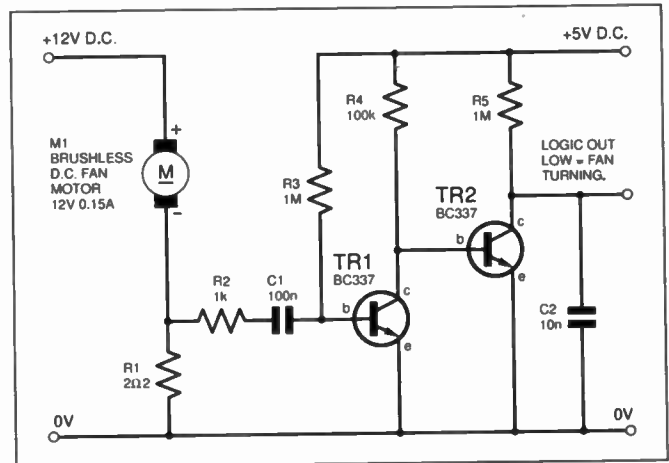

Fig.1. Circuit diagram for the d.c. brushless motor failure alarm.
**T**HE CIRCUIT of Fig. 1 may be suitable for most d.c. brushless fans. Its output is CMOS logic level compatible and is high either when the fan is not turning or is disconnected, and low when the fan is running. The circuit could form the input of an alarm or monitoring system where failure of a cooling fan, for example, could have serious consequences.